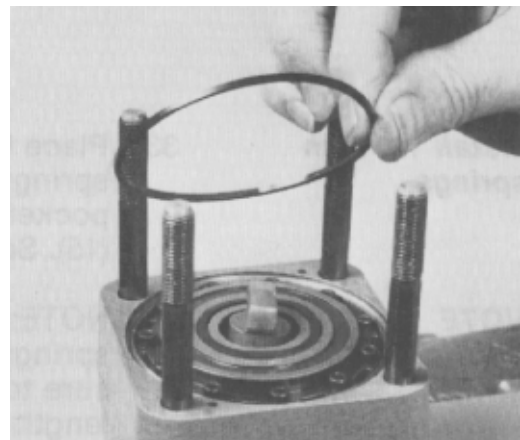

Figure 111
30. Apply clean multi-purpose grease to the metering ring seal ring. Put the seal ring into the metering ring seal ring groove (Fig. 111).